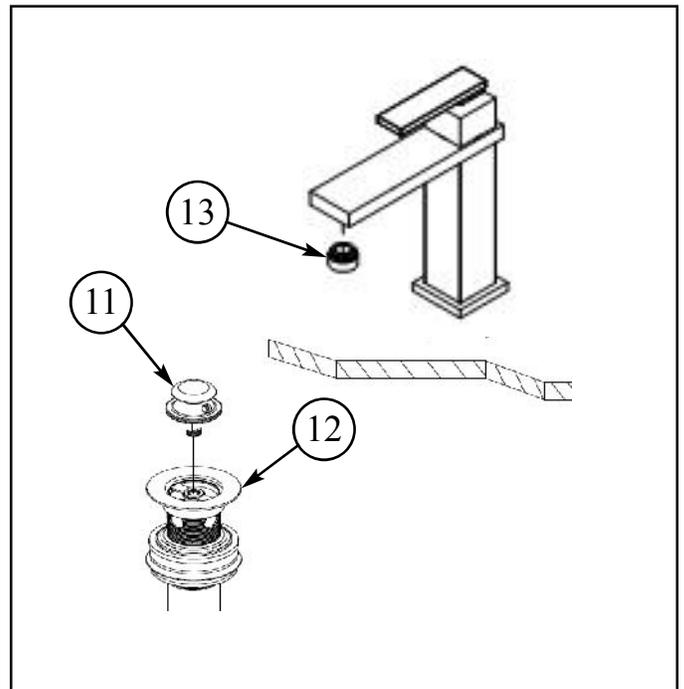

Figure 4
4. See Figure 4.
5. Remove FLOW RESTRICTOR (13) from spout. Turn on water supply, and flush system until water is clear. Check for leaks and make any final adjustments required. Re-attach FLOW RESTRICTOR (13) to the spout.